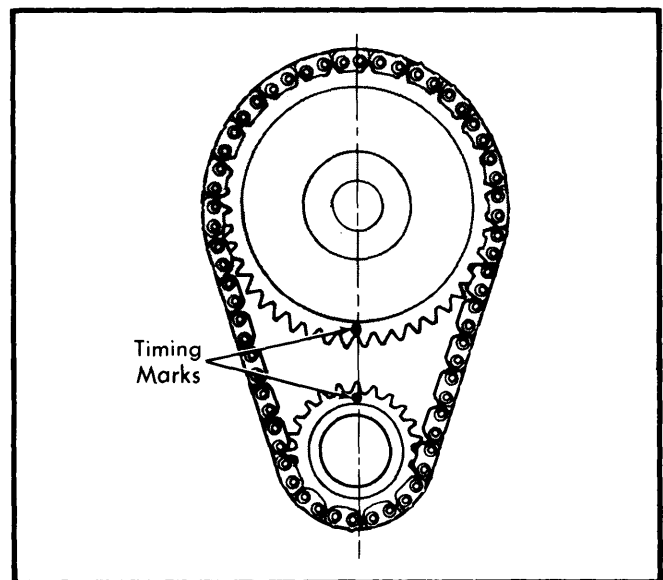

Fig. 9 Timing Chain Sprocket Alignment
**Removal** — Remove front cover and crank engine until timing marks are aligned. See Fig. 9. Remove camshaft sprocket-to-camshaft bolts. Remove sprocket and timing chain together.